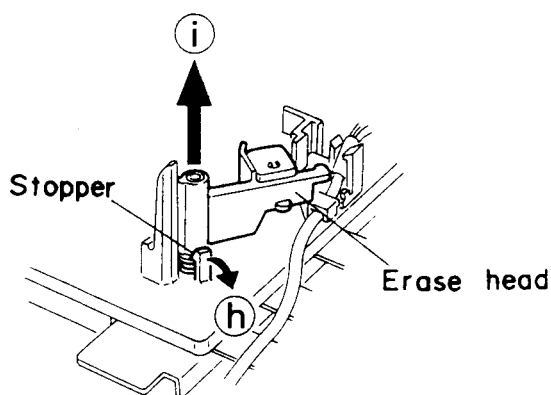

Fig. 5-22
■ Removing the Record/Playback head & Erase head (See Figs. 5-22, 23)
1. Remove two screws (③, ④) retaining the Record/Playback head.
2. Pull out the stopper of the Erase head in the direction of the arrow ⑤.
3. Pull out the Erase head in the direction of the arrow ⑥.
14. Pull out all of the three stages of CD tray assembly in the arrow direction (E) until these stages stop (See Fig. 5-22).